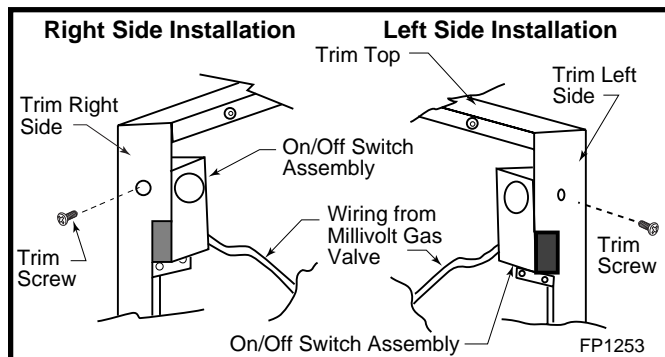

Fig. 5 Slide switch assembly between subframe and trim.
2. Slide switch assembly from the back, between subframe and trim, then fasten the screw. (Fig. 5)